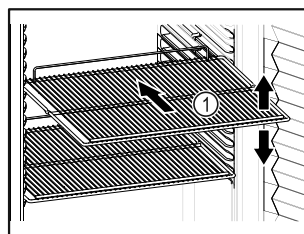

Fig. 82 Example illustration
- ☐ If there are adjustable shelves Fig. 82 (1), position them as required.